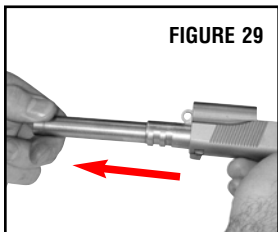

FIGURE 29
- Rotate the barrel link to the forward position (lowered) and remove the barrel through the front of the slide (Figure 29).